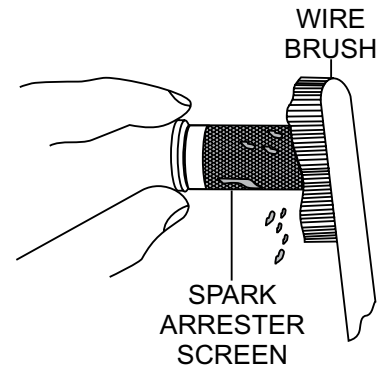

Figure 28. Cleaning The Spark Arrester
4. Carefully remove carbon deposits from the spark arrester screen (Figure 28) with a wire brush.